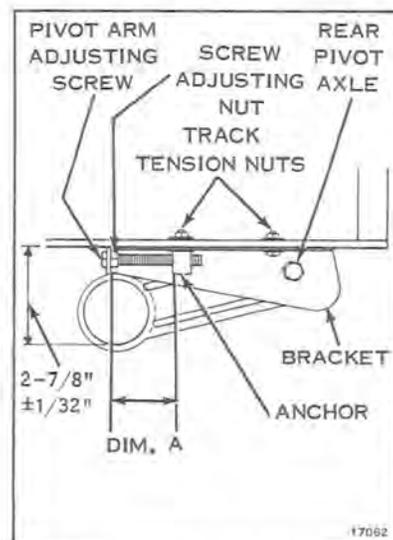

Figure 11-3
Track tension is correct if the distance from the bottom of the pivot arm bearing bore to the bottom of the adjusting bracket is $2\text{-}7/8" \pm 1/32"$. See Figure 11-3.
- Turn pivot arm adjusting screws to obtain the correct track tension as shown in Figure 11-3. Measure distance from bracket to anchor on each side, Figure 11-3, dimension A. If measurements are not equal, loosen adjustment on the side with longest dimension until measurement is equal within $1/32"$. This is done by turning the pivot arm adjusting screw counterclockwise. Tighten all retaining nuts.